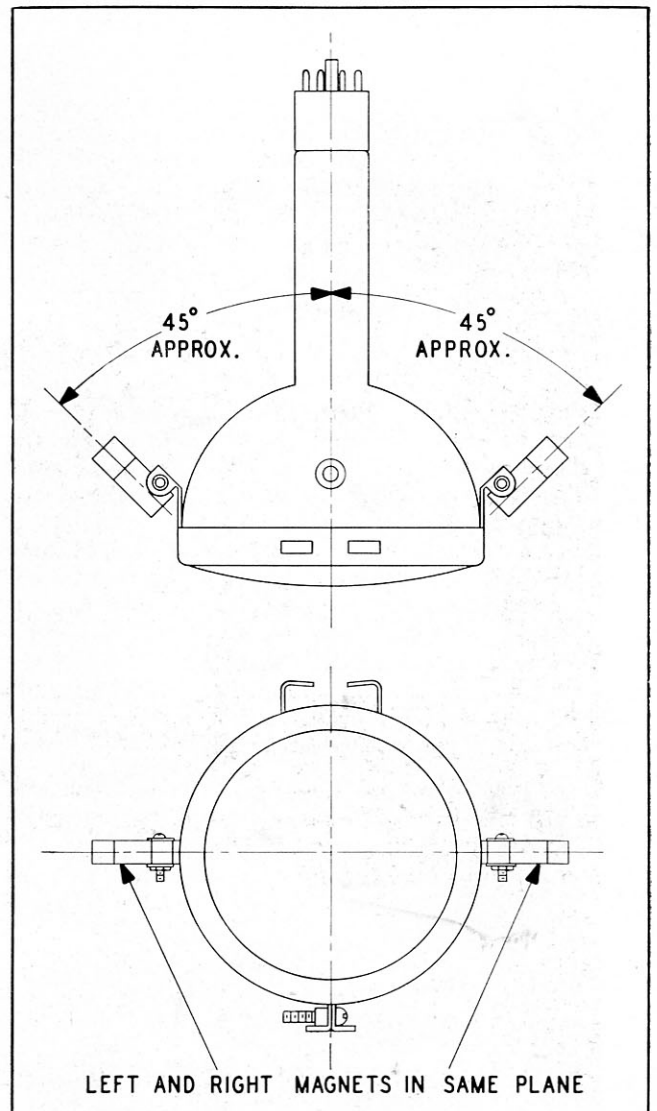

FIGURE 5. Proper Magnet Alignment TP-4002
17. Open the end of the picture-tube shipping carton marked "OPEN THIS END" and remove the tube. Do not touch the high-voltage anode, nor disturb the positioning of the magnets. The magnets have been factory-adjusted to an angle of approximately 45° with the axis of the tube, with both magnets in the same plane (figure 5).